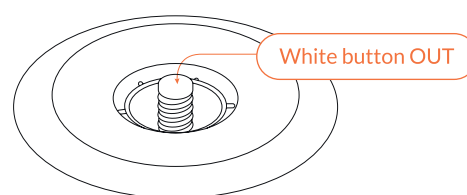

Fig 56 - One way Inflation valve shut (retain air)
3. Prepare the Air Toggle valve for inflation by pressing the white button in the centre of the valve until it pops out. Failure to do this will cause the Air Toggle to instantly deflate (Fig 56)